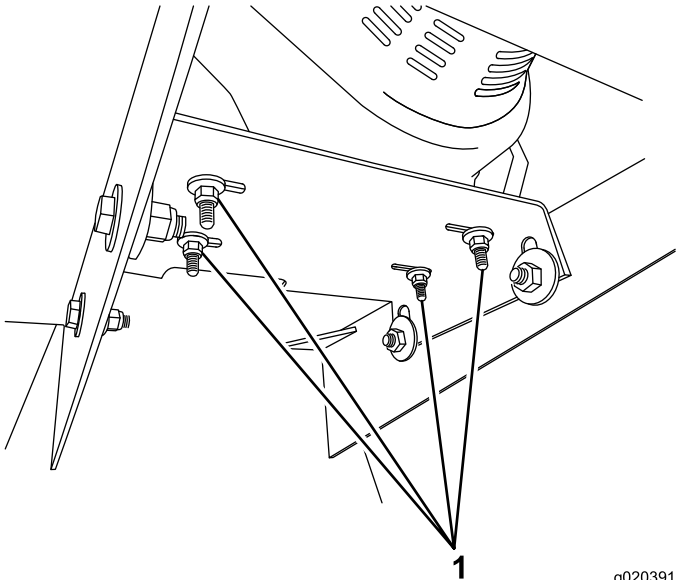

Figure 38
2. Remove the 4 nuts and bolts that secure the engine to the engine-mounting plate (Figure 38).
1. Set the engine on the engine-mounting plate, and align the bolt holes (Figure 38).